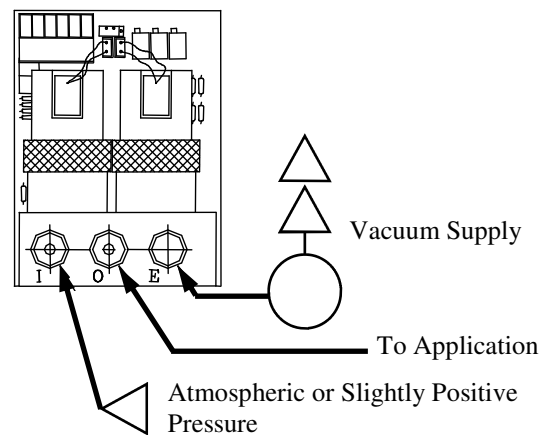

Figure 6
2. Connect vacuum supply to the “E” port (figure 6).
3. Connect supply pressure to the “I” port (figure 6) not to exceed rated supply pressure (See table 1). Supply pressure is necessary on vacuum to positive pressure MM units and when a MM air pilots a volume booster.
4. Connect the outlet “O” port (figure 6) to the device being controlled.
6. See figure 6 for switching current command and voltage command.